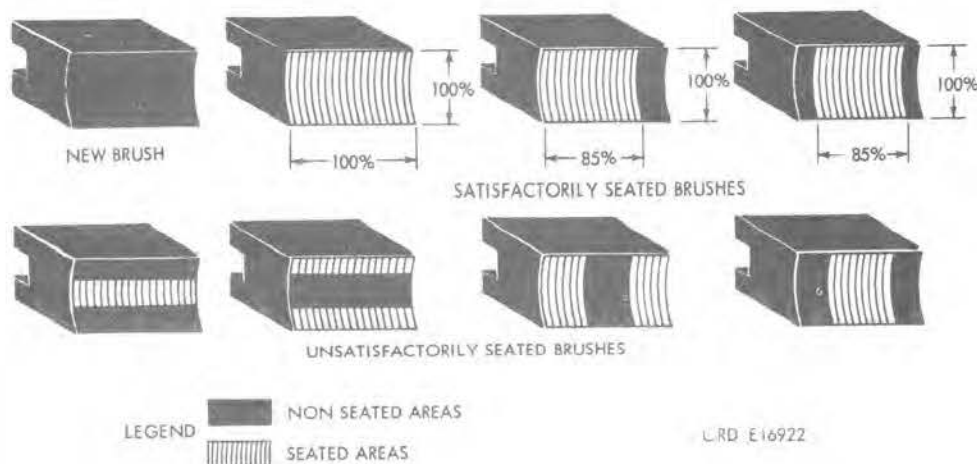

FIGURE 35. EXAMPLES OF SATISFACTORY AND UNSATISFACTORY BRUSH SEATS.
- (1) Replace cracked or warped end bells, bearing retainers, seal plate, static brush, distorted or grounded brush plate assemblies; bent brush arms; spent or burned brush springs; cracked, oil soaked, or worn brushes; and all defective hardware parts.
- (2) Check brush seat pattern. Refer to figure 35 for examples of satisfactory and unsatisfactory brush seats. All new
e. Rotate end bell in a counterclockwise direction, as viewed from commutator end of armature, until brushes are seated satisfactorily, refer to figure 35.